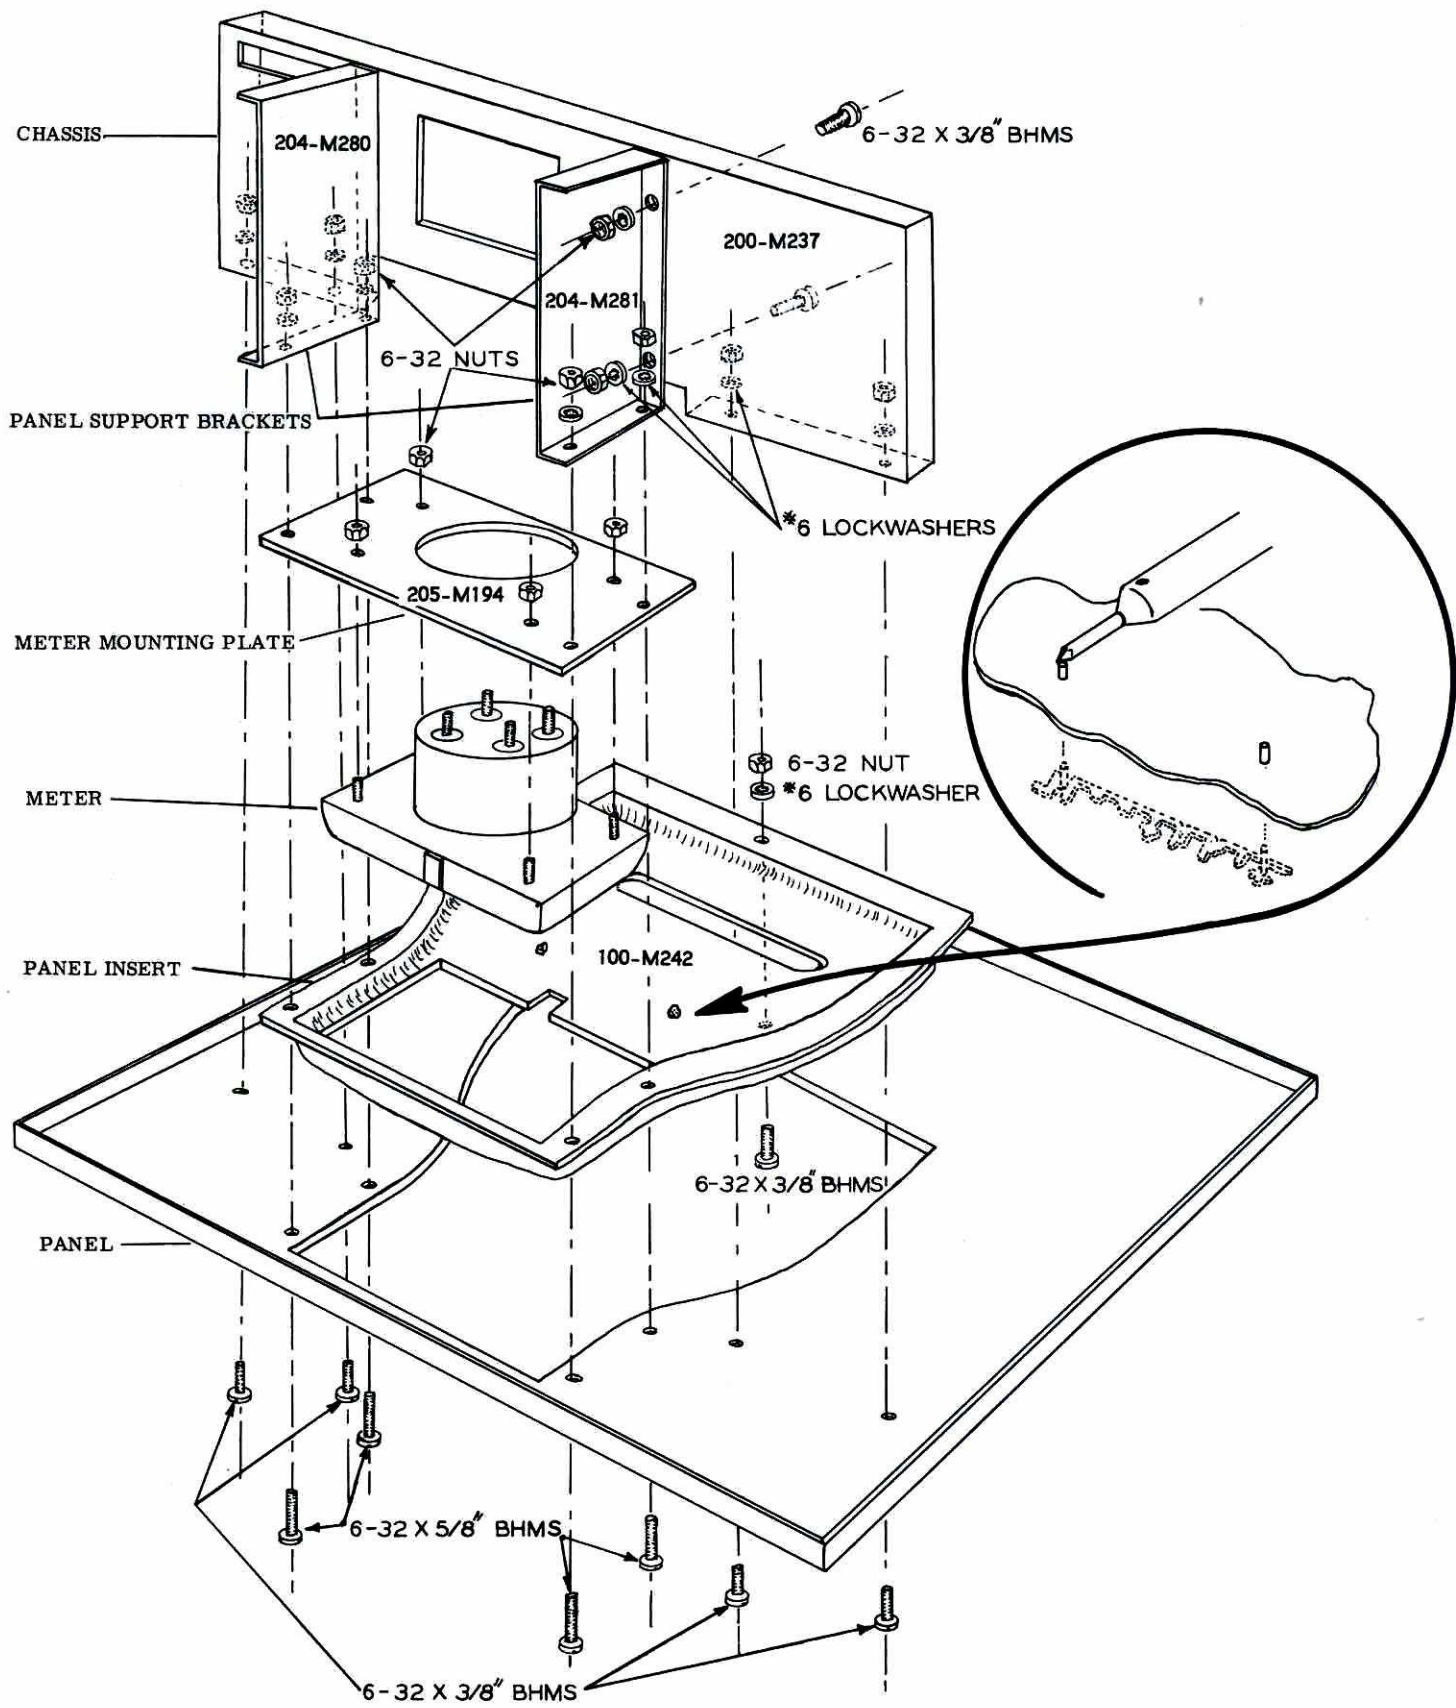

Figure 23
- () Mount the meter on the meter mounting plate, using the 6-32 nuts provided. Use no lockwasher. See Figure 23.